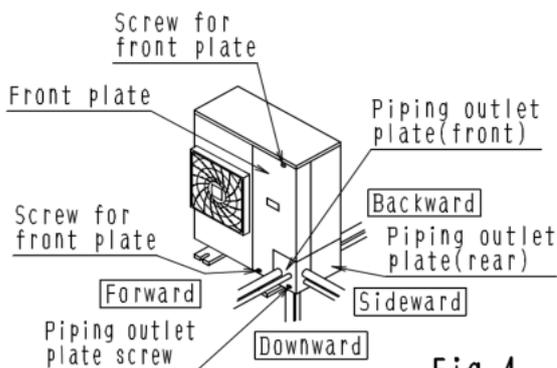

Fig. 4
- The refrigerant piping is connectable in four directions. (See Fig. 4)